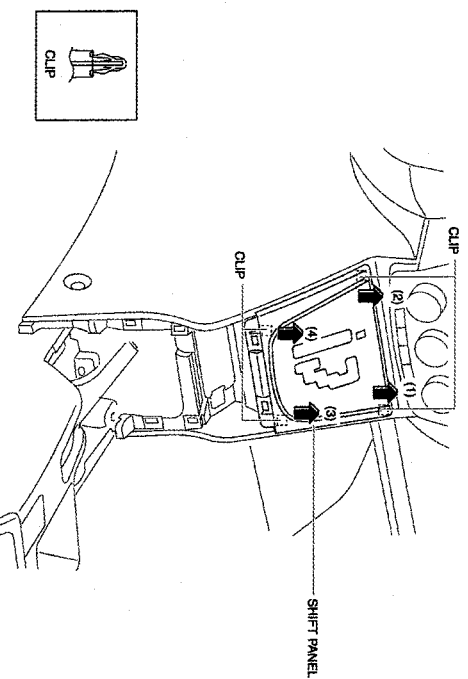

FIGURE 12
- 2.) PULL THE SHIFT PANEL IN THE DIRECTION OF THE ARROWS (1), (2), (3) AND (4) WHILE REMOVING THE CLIPS. (SEE FIGURE 12)